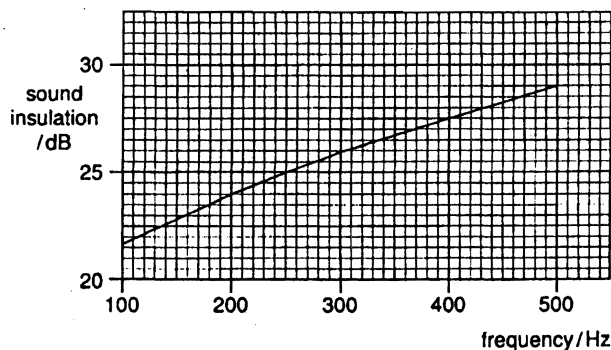

Fig. 38
Fig. 38 shows the variation with frequency of the sound insulation provided by a sheet of glass of thickness 6 mm.
- (ii) From Fig. 38, read off the value of sound insulation for a frequency of 350 Hz.